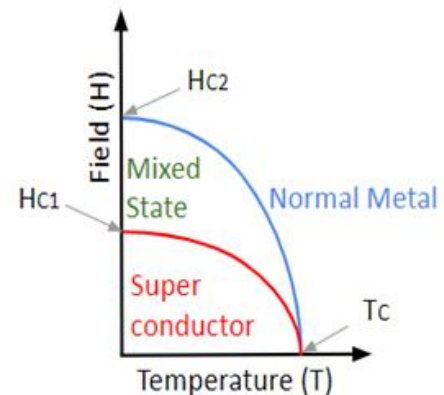

Figure 7c: Field Vs Temperature
- Type-II superconductors are characterized by two critical field values H_{c1} and H_{c2} . *Figure 7c* is a plot of magnetic field versus temperature indicating that the material is in its **superconducting state** below H_{c1} , the superconductor enters its **normal state** after H_{c2} , whereas the superconducting material exists in a **mixed state** between H_{c1} and H_{c2} .